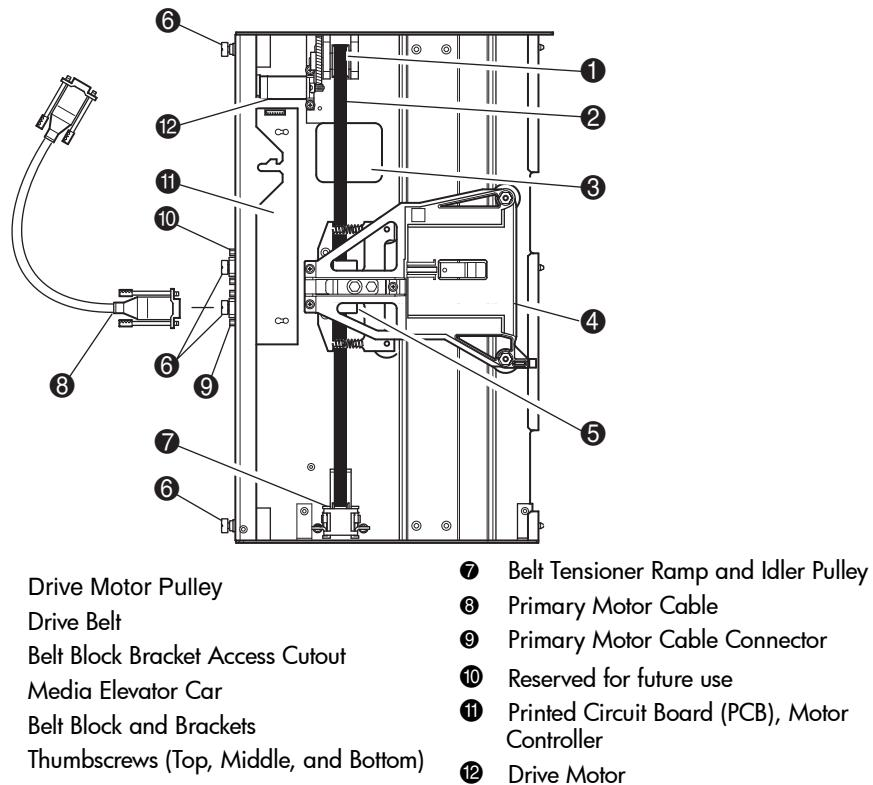

Figure 5: PTM base unit
The PTM base unit comes factory assembled and contains the following components (see Figure 5).
6. Turn the PTM base unit over and then remove the drive belt from the media elevator car, the belt tensioner ramp, and the idler pulley (see Figure 5 on page 24).